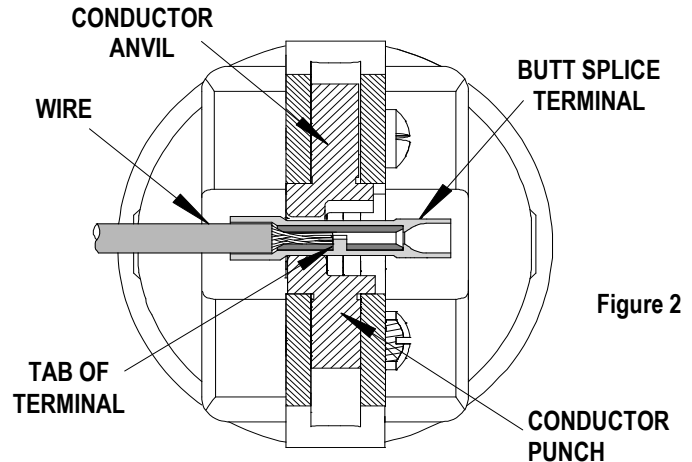

Figure 2
1. Insert the wire into the butt splice; the wires end should butt up against the tab in the terminal. See Figure 2.